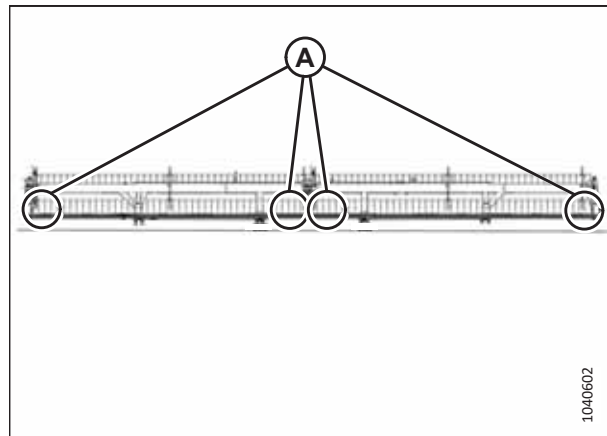

Figure 4.274: Double-Reel Header Measurement Locations
- Figure 4.274, page 654 – double-reel headers